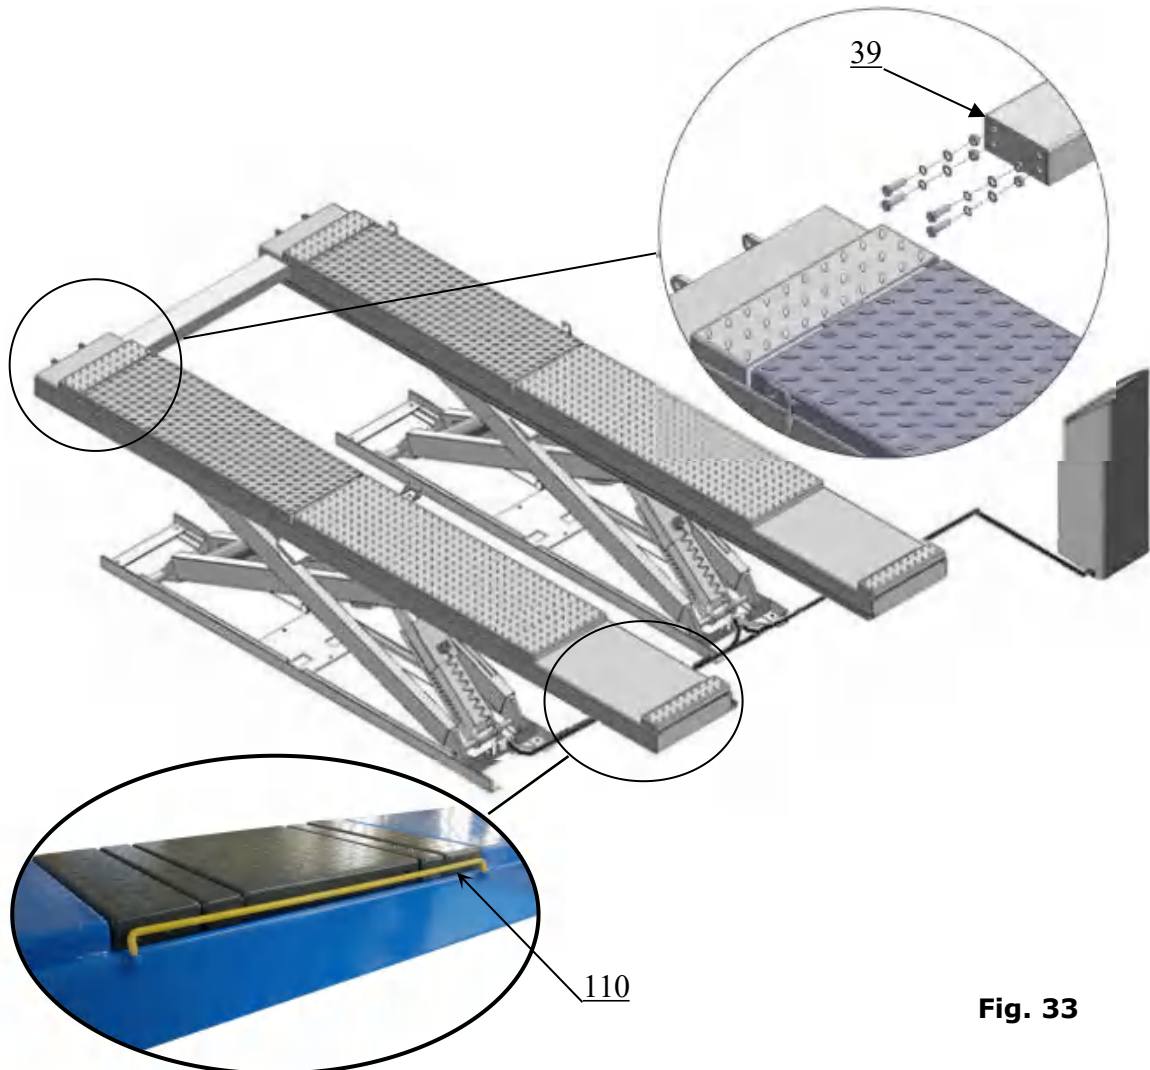

Fig. 33
F. Install runway connecting bar, Install Limit rod. (See Fig. 33).